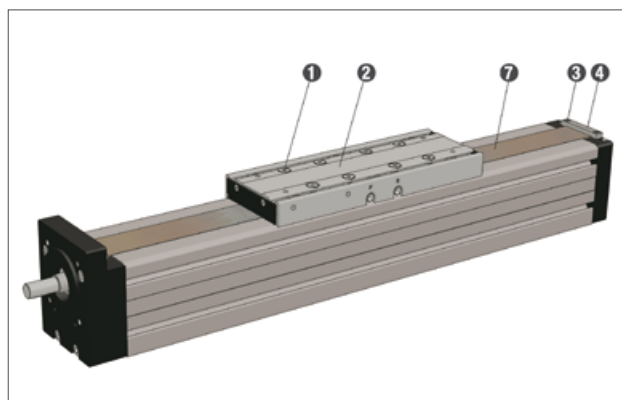

Figure 4.13 — Cover strip replacement
For the replacement of the cover strip for Linear Axis of the series AXC, the following steps in accordance to Figures 4.13 up to 4.17 must be observed:
1. Disassemble the screws **1** and remove the slider plate **2** (Figure 4.13) (omitted for AXC100).